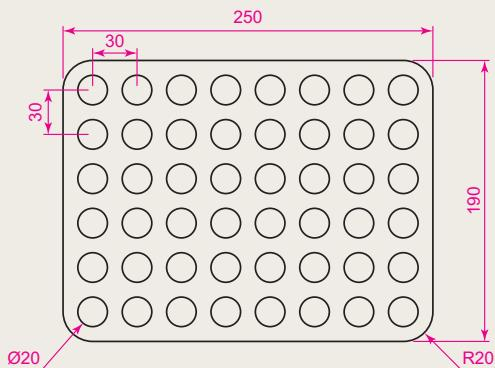

Fig. 5.47 Exercise 2
2. Construct the drawing Fig. 5.47. All parts of the drawing are plines of width = 0.7. The setting in the **Array** dialog is to be **180** in the **Angle of array** field.